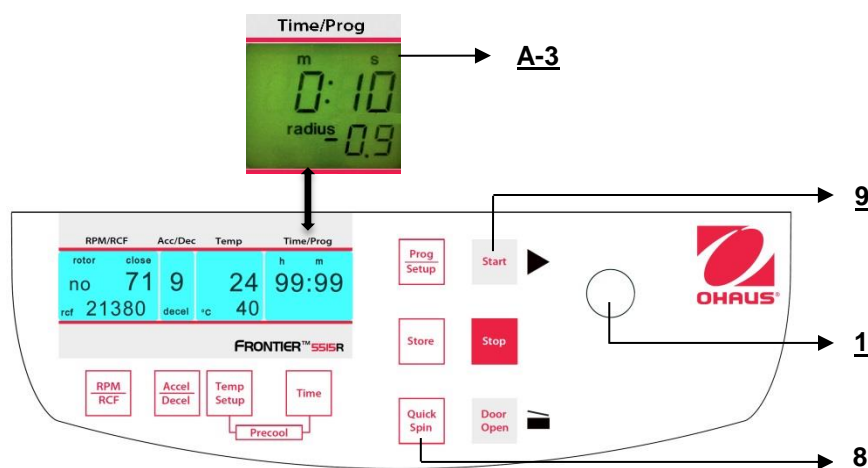

Figure. 26
You can start the centrifuge either with the **"Start"** key (9) (refer to figure 26) or the **"Quick Spin"** key (8).